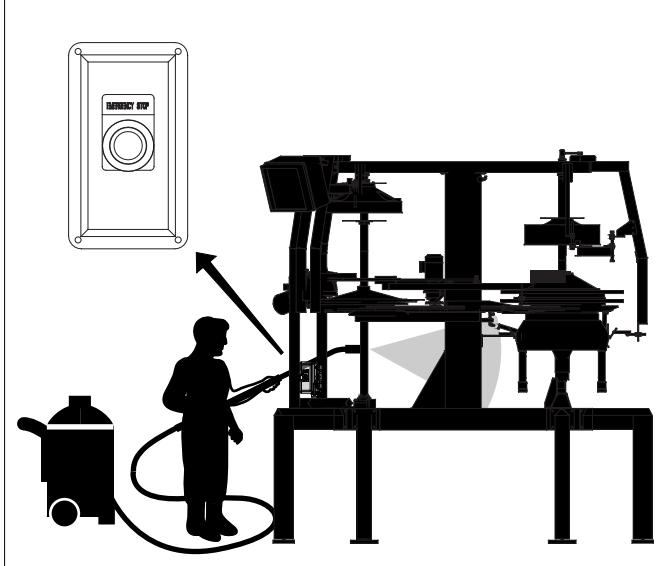

fig. 50 Cleaning the machine
1. Press emergency-stop button and/or emergency-stop cord, within range as shown in fig. 50.